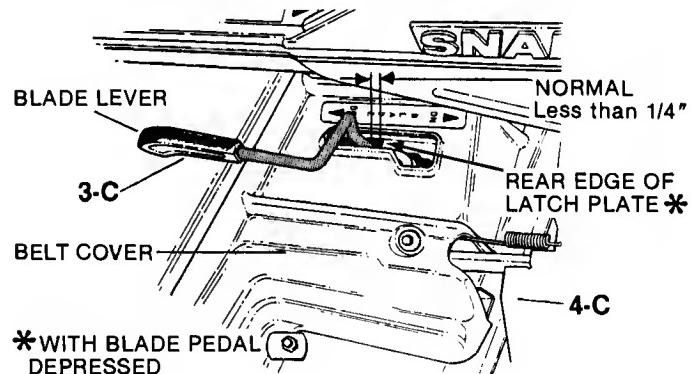

FIG. 10 - BLADE LEVER TRAVEL
**STEP 4:** Release the BLADE pedals to allow the BLADE lever to move to the OFF position, then depress the BLADE pedals again and check the clearance between forward edge of the BLADE lever and the rear edge of the latch plate which should be less than 1/4" (FIG. 10). Repeat the procedure in step 2 if needed to obtain correct clearance. When correct, hold the BLADE lever rearward and turn the jam-nut tight against the T-nut to lock in new position. Reinstall BELT COVER.